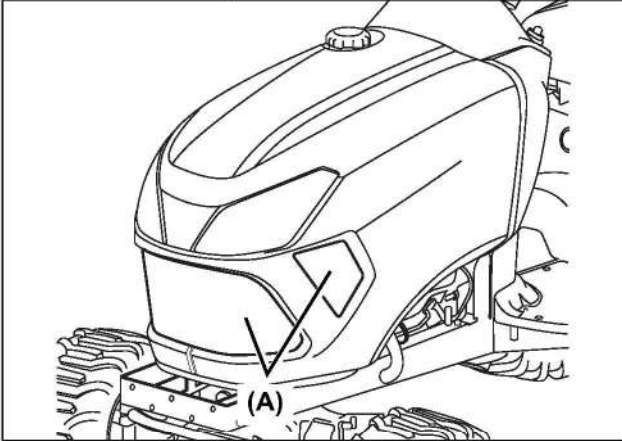

Fig 14-11
- (A) Radiator cooling screen
1. Check the front grille screen (Fig 14-11, A) for dirt, grass clippings and debris.